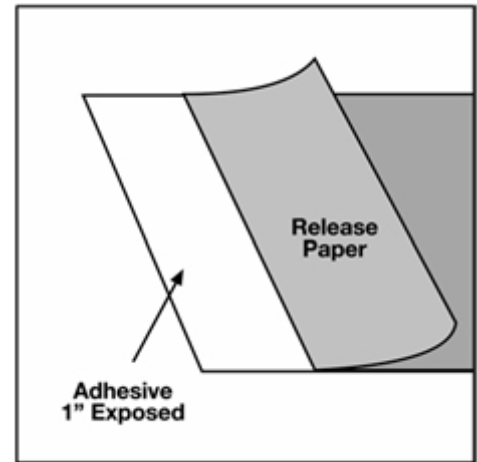

Figure 5d
2. Place the mounting substrate on a flat surface and expose approximately one inch of the adhesive by peeling back the release paper (Figure 5d).